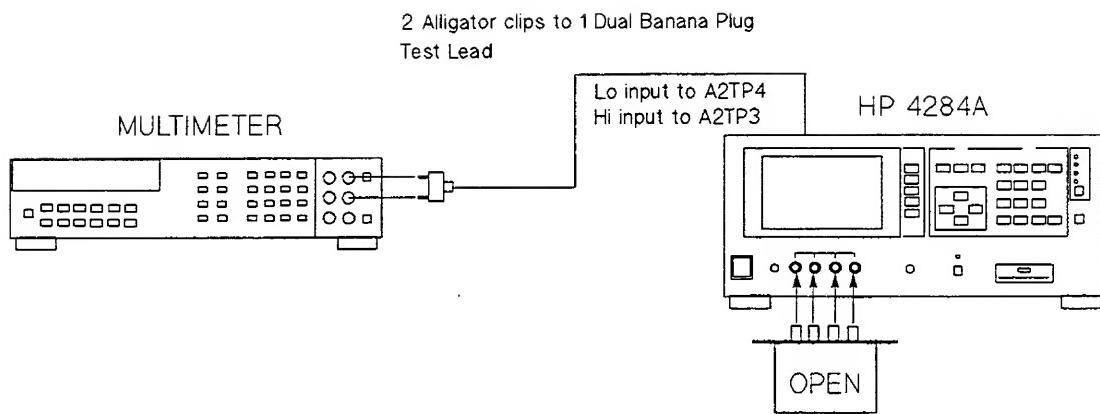
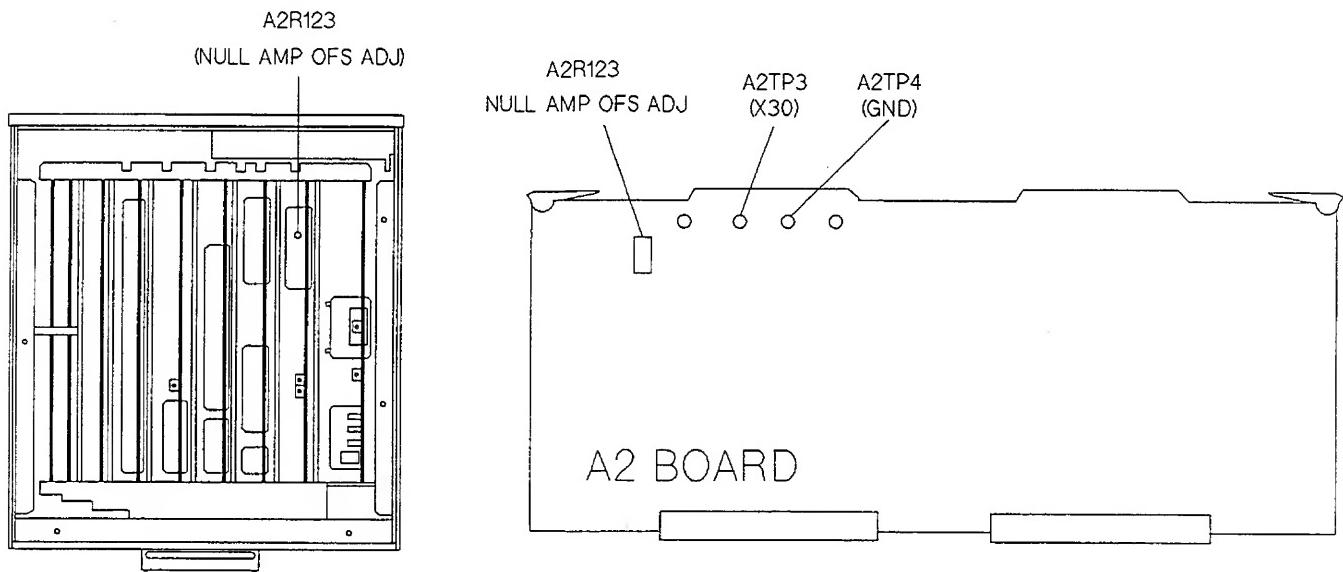

Figure 2-14. Null Amplifier DC Offset Adjustment Setup
Figure 2-15. Null Amplifier DC Offset Adjustment Location
3. Perform the null amplifier DC offset adjustment according to the program's instruction. Figure 2-14 shows the adjustment setup, Figure 2-15 shows the A2TP3 (X30), A2TP4 (GND) and A2R123 (NULL AMP VOS ADJ) locations.